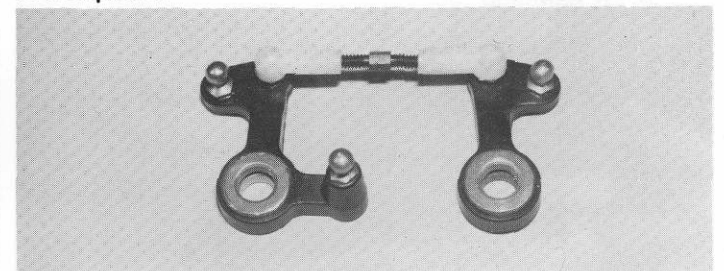

Fig. 29
□ **Fig. 29** Take the short turnbuckle tie rod and snap it onto the bell crank steering arms as shown. You may need to use pliers.